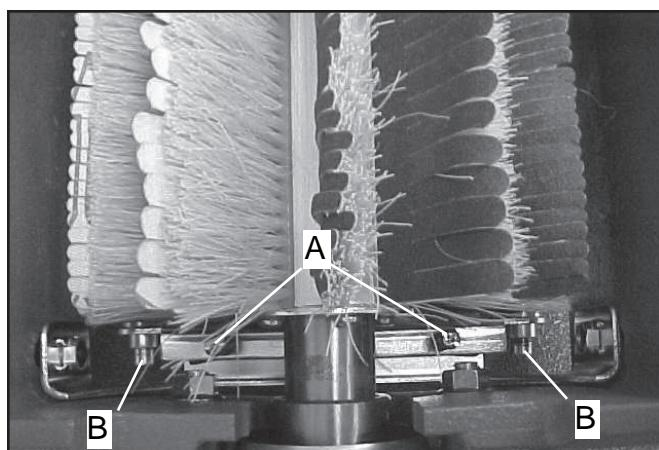

Fig. 11 Tension rollers and adjustment bracket
2. Set tension rollers to type of stock being sanded (See Tension Roller Adjustment below and Fig. 11).
Spring loaded infeed and outfeed Tension Rollers (B, Fig. 11) are provided to maintain downward pressure on stock being sanded and to prevent slippage of the stock on the conveyor. When properly set, the Tension Rollers should engage or raise up about 3mm to accommodate the stock being brushed.
The tension roller pressure is factory set for most applications. However, the pressure of each roller can be adjusted. Caution, too little pressure can result in slippage of stock on conveyor belt or kick-back. Too much tension can cause snipe when drum sanding or not enough lift when sanding profiled material. To increase tension turn the tension adjusting screw (A, Fig. 11) clockwise $\frac{1}{4}$ revolution at a time. To decrease tension turn the adjusting screw counter-clockwise $\frac{1}{4}$ revolution at a time.
short, flat stock only. To adjust, remove the four tension adjusting screws (A, Fig.11), keeping track of screw penetration into retaining nut. Slide rollers in toward drum using retaining nut closest to drum. Reinstall four adjusting screws with the same tension or penetration into retaining nut.